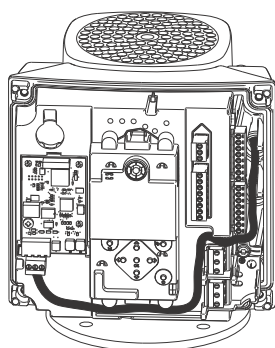

Fig. 19 Example of wire routing
- Route the wires for the CIM module. See the example in fig. 19.